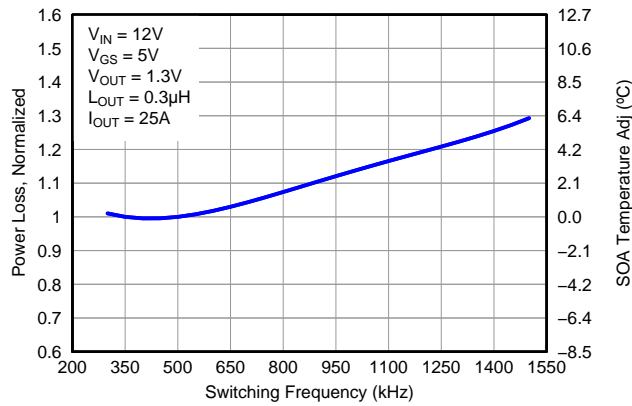

Figure 6. Normalized Power Loss vs Switching Frequency
- Normalized power loss for switching frequency ≈ 1.08 (Figure 6)